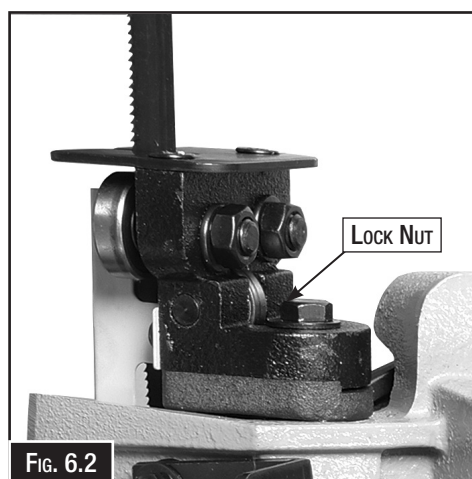

Fig. 6.2
4. Loosen the lock nut (Fig. 6.2) and adjust the blade guide housing so the back of the blade just touches the roller, making sure the guide housing is not tilted.